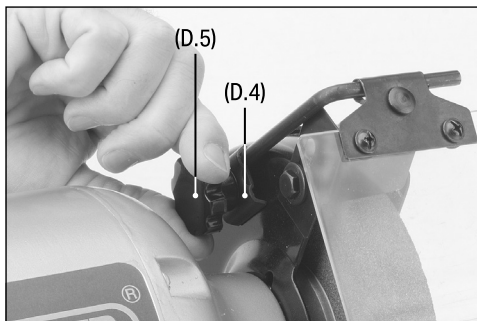

Fig. 6
6. Fit the eye shields to the bench grinder, by attaching clamp (D.4) to the wheel guard (4) using lock knob (D.5) as shown in Fig.6.